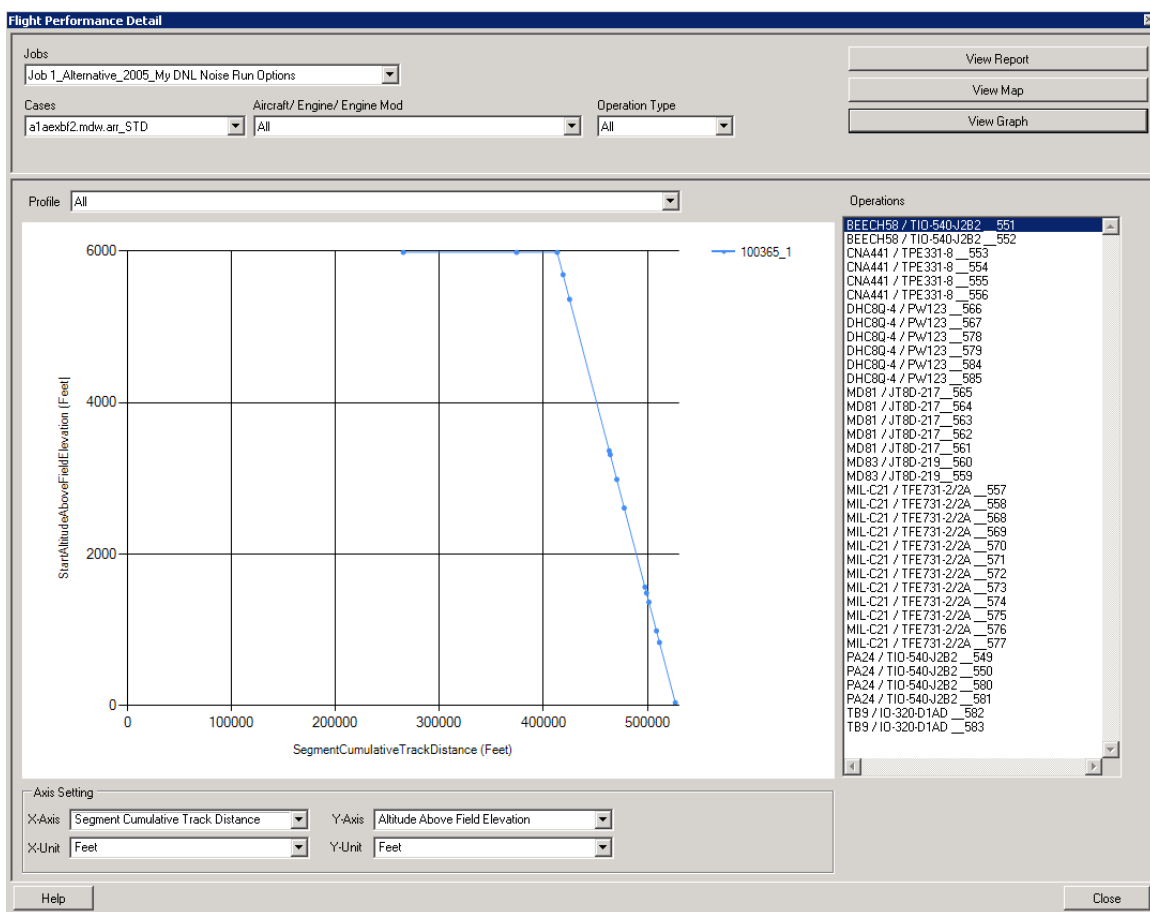

Figure 8-1 Flight Performance Detail Dialog Box
To access the *Flight Performance Detail* dialog box, from the menu bar select *Results, Flight Performance Information* (Figure 8-1).
1. In the *Flight Performance Detail* dialog box (Figure 8-1), click the *View Report* button.